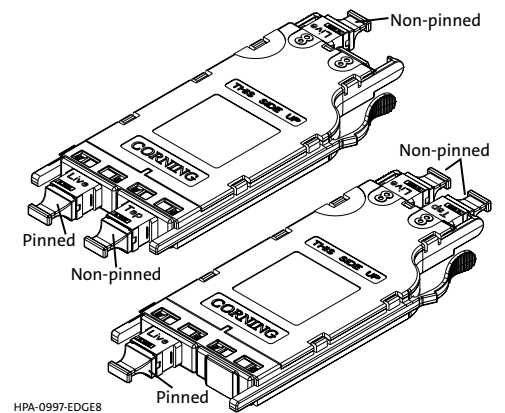

Figure 1
1.1 This procedure describes EDGE8™ MTP Tap Modules, which are available for both multimode and single-mode applications. Compatible with all EDGE8 rack-mountable connector housings, Figure 1 shows the configurations offered.